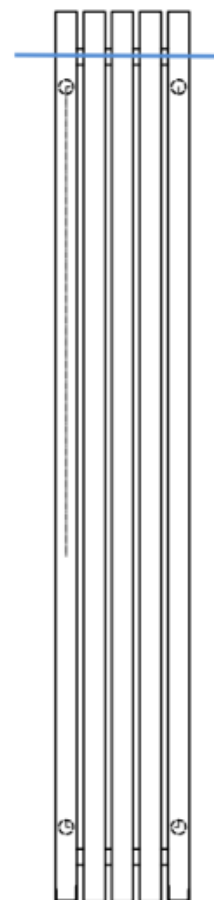

Figure 7 | Top-up position for vertical models
1. Position the radiator so that the element inlet is at the highest point. (**Figure 7**)
5. Level the top of the radiator like **Figure 7**.